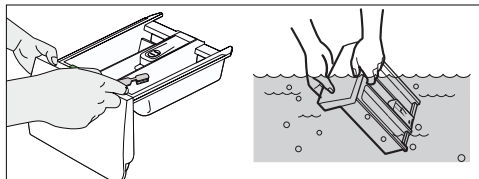
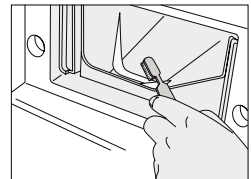

Fig. 17
Fig. 18
- Clean the drawer recess with a bristle brush. (Fig.17, Fig.18)